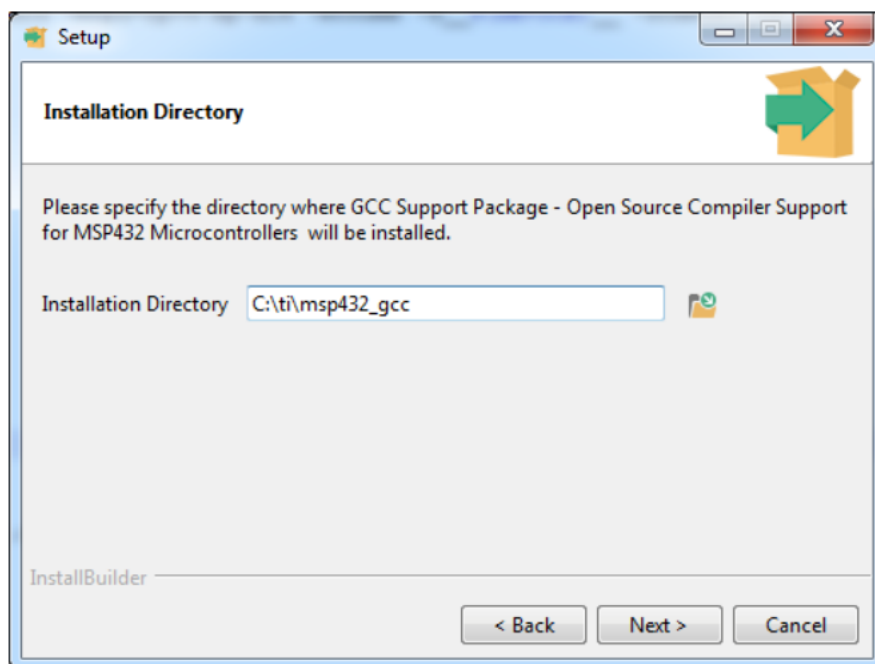

Figure 2. MSP432 Software GCC Support Stand-Alone Package Installation Directory
2. Select the install directory and click Next (see Figure 2).